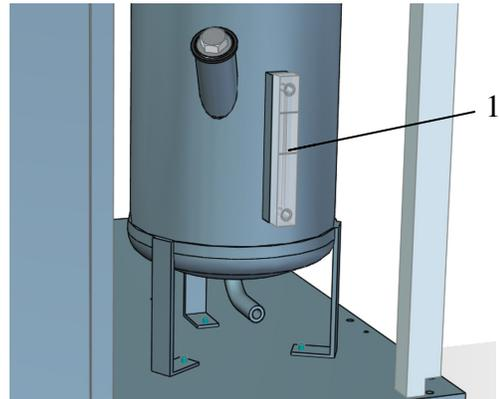

Fig. 26: Inspection glass
3. Check the oil sight glass (Fig. 26/1) to make sure the oil is between the top and bottom oil level indicator lines